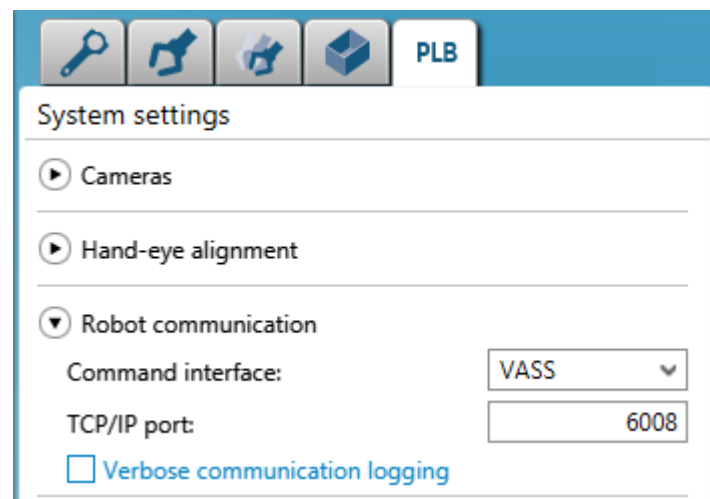

Figure 128: Specifying the VASS interface for communication with the robot controller
4. Go to the settings for robot communication (see figure 128, page 177).